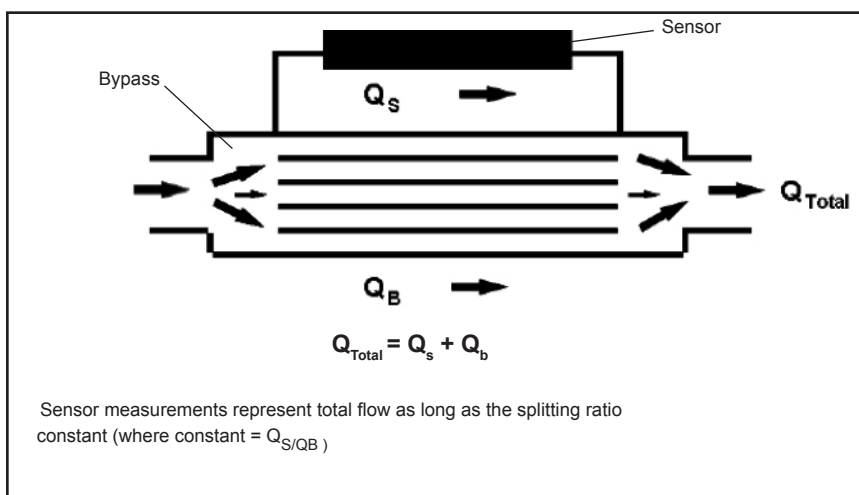
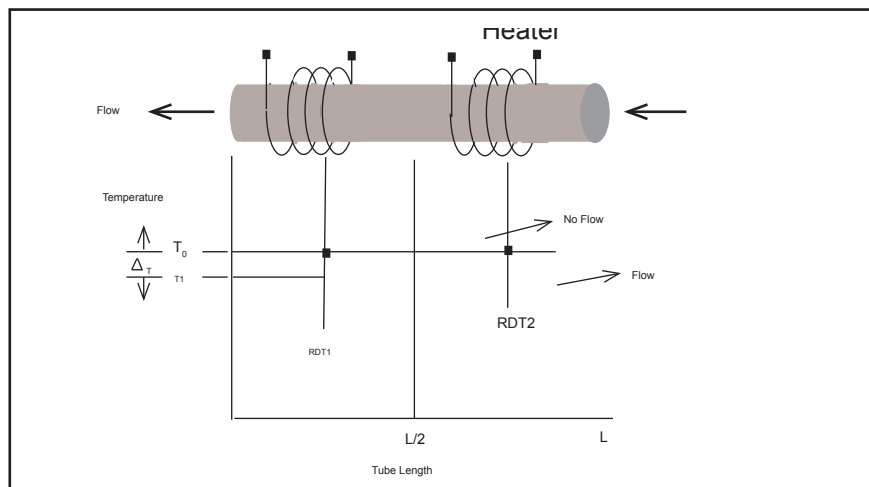

Figure 2-2 Bypass Assembly Functional Diagram
Figure 2-5 Thermal Sensor Operation
Bypass Assembly (2)	Restricts the flow of gas through the MFC. Refer to Figure 2-2, Bypass Assembly Functional Diagram, on p. 2-2 for further details.
Parallel Sensor (4)	Measures the gas temperature across the sensor and feeds this information to the PCB assembly. Refer to Figure 2-2, Bypass Assembly Functional Diagram, on p. 2-2 and to Figure 2-5, Thermal Sensor Operation, on p. 2-3 for further details.
Each MFC utilizes a thermal sensor tube to measure the mass flow rate (m) of gas passing through the MFC. Each gas molecule has a specific ability to pick up heat. This property (C_p) directly relates to mass and physical structure of the molecule. Gas is heated in a tube and resistive temperature devices measure the temperature gradient along the tube. This process is described in the following formula and shown in Figure 2-5, Thermal Sensor Operation, below.